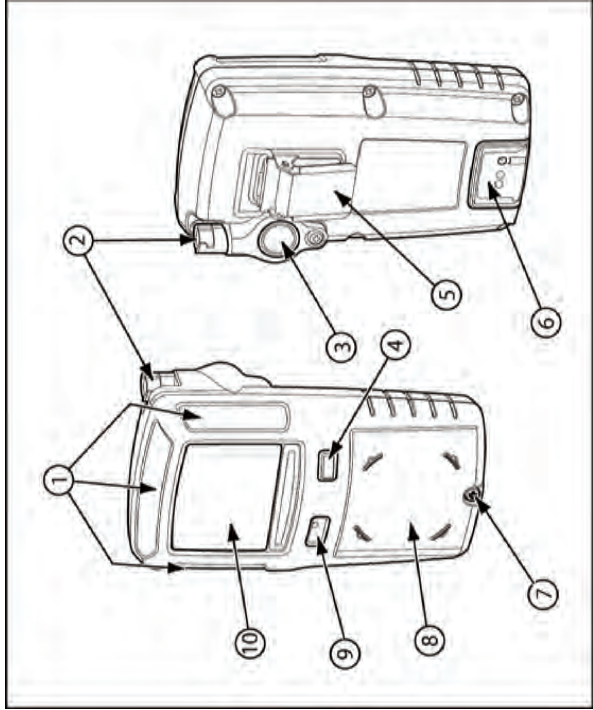

Figure 1. Parts of the GasAlertMaxXT II
- Figure 1. and Table 2. describe the detector's components.